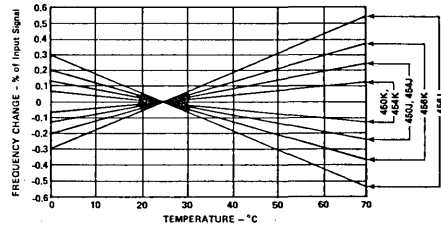

Figure 5. Gain Frequency Drift (Worst Case)
**Gain Temperature Stability:** Gain drift is specified in ppm of input signal and is guaranteed for each model over the 0 to +70 $^\circ$ C temperature range. The curves of Figure 5 illustrate the drift limits for all models; typical performance is half the guaranteed limits.